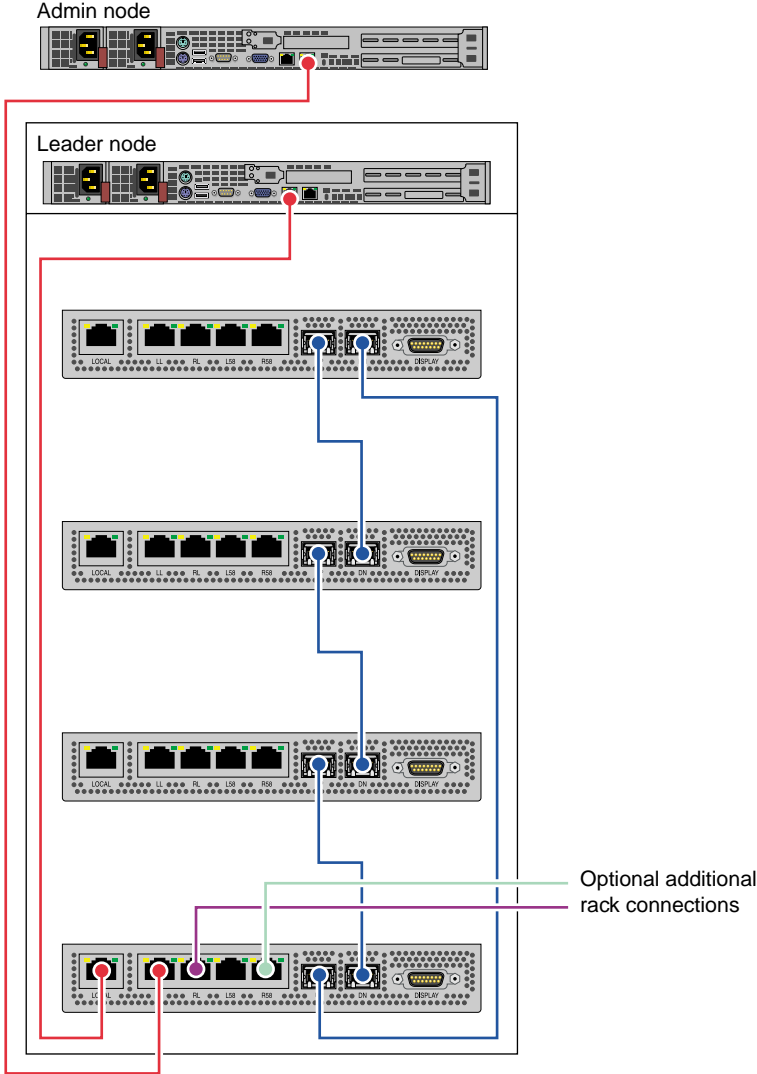

Figure 5-2 Admin/Leader to CMC Cable Examples
2. Disconnect both power cables, see Figure 5-2 on page 231 for server connection locations.